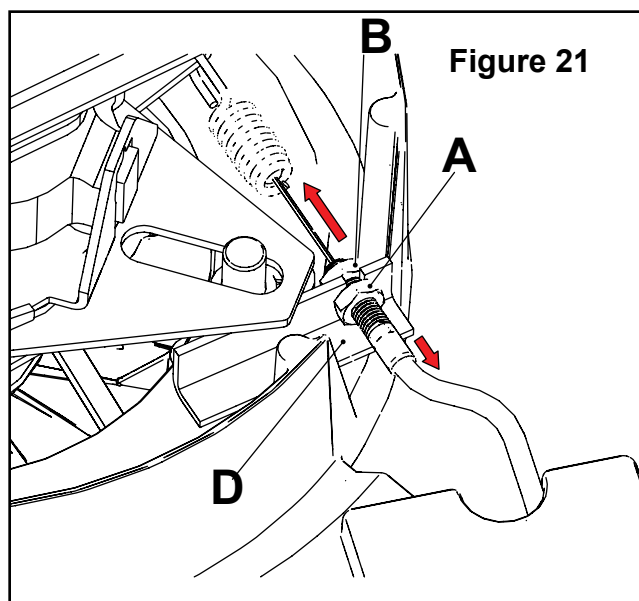

Figure 21
6. Pull cable to remove slack. While you continue to pull the cable, hand tighten nut **A** against cable bracket **D**. Let go of the cable and tighten the second nut **B** against the bracket. **Figure 21**